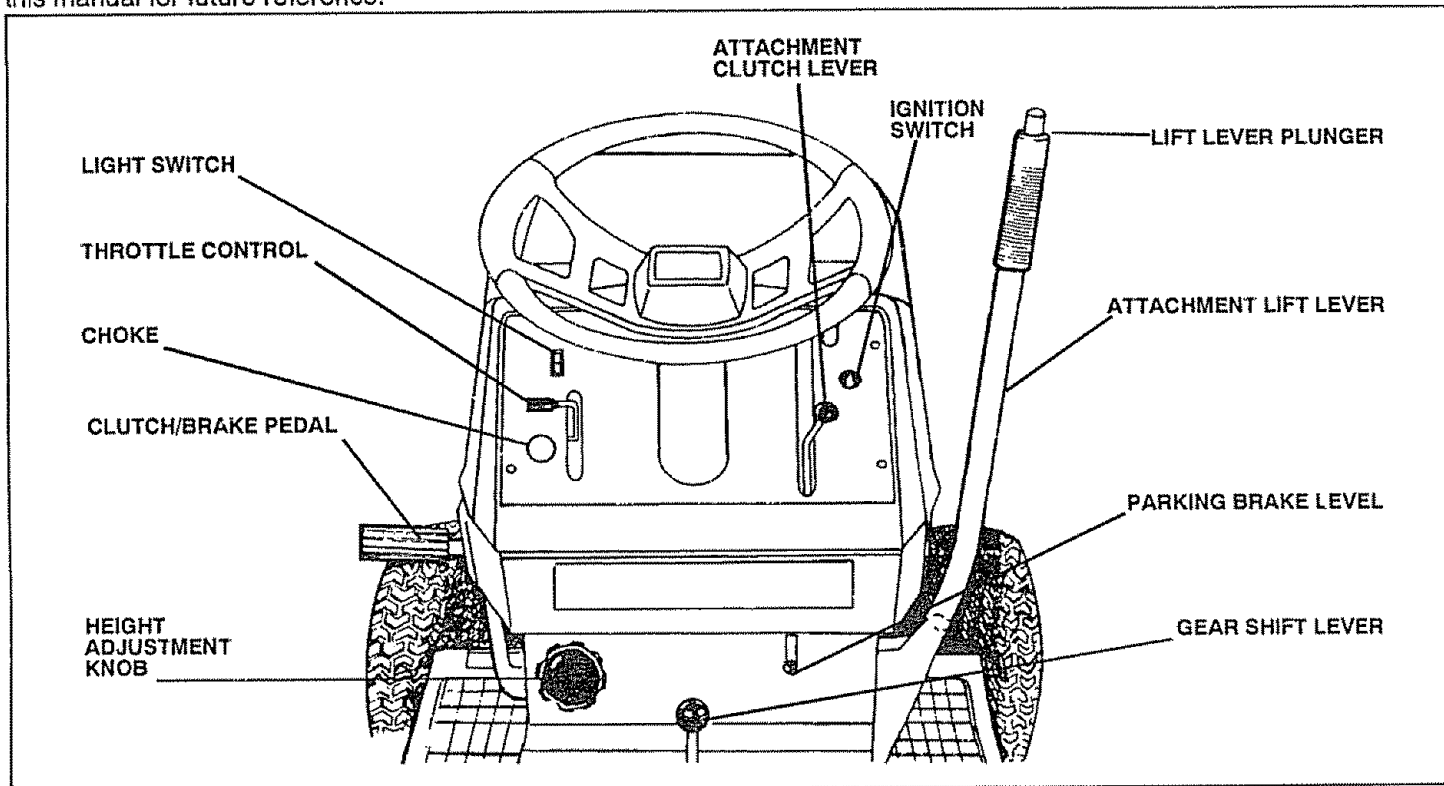

FIG. 6
(See Fig. 6)
- Slide seat until a comfortable position is reached which allows you to press clutch/brake pedal all the way down (See Fig. 6).
TO MOVE FORWARD AND BACKWARD (See Fig. 6)
TO ADJUST MOWER CUTTING HEIGHT (See Fig. 6)